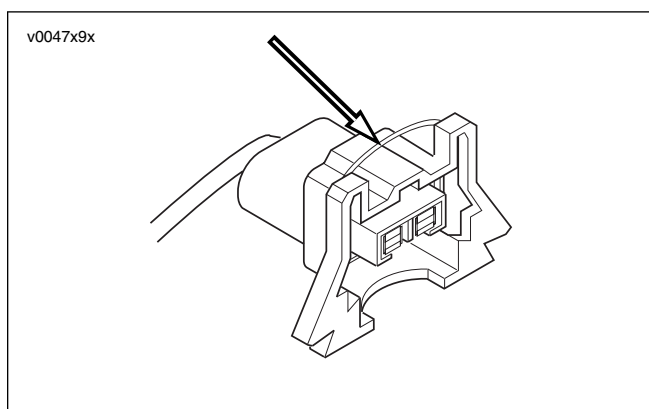

Figure 4-30. IAT Connector Wire Form
- a. See Figure 4-30. Depress wire form.